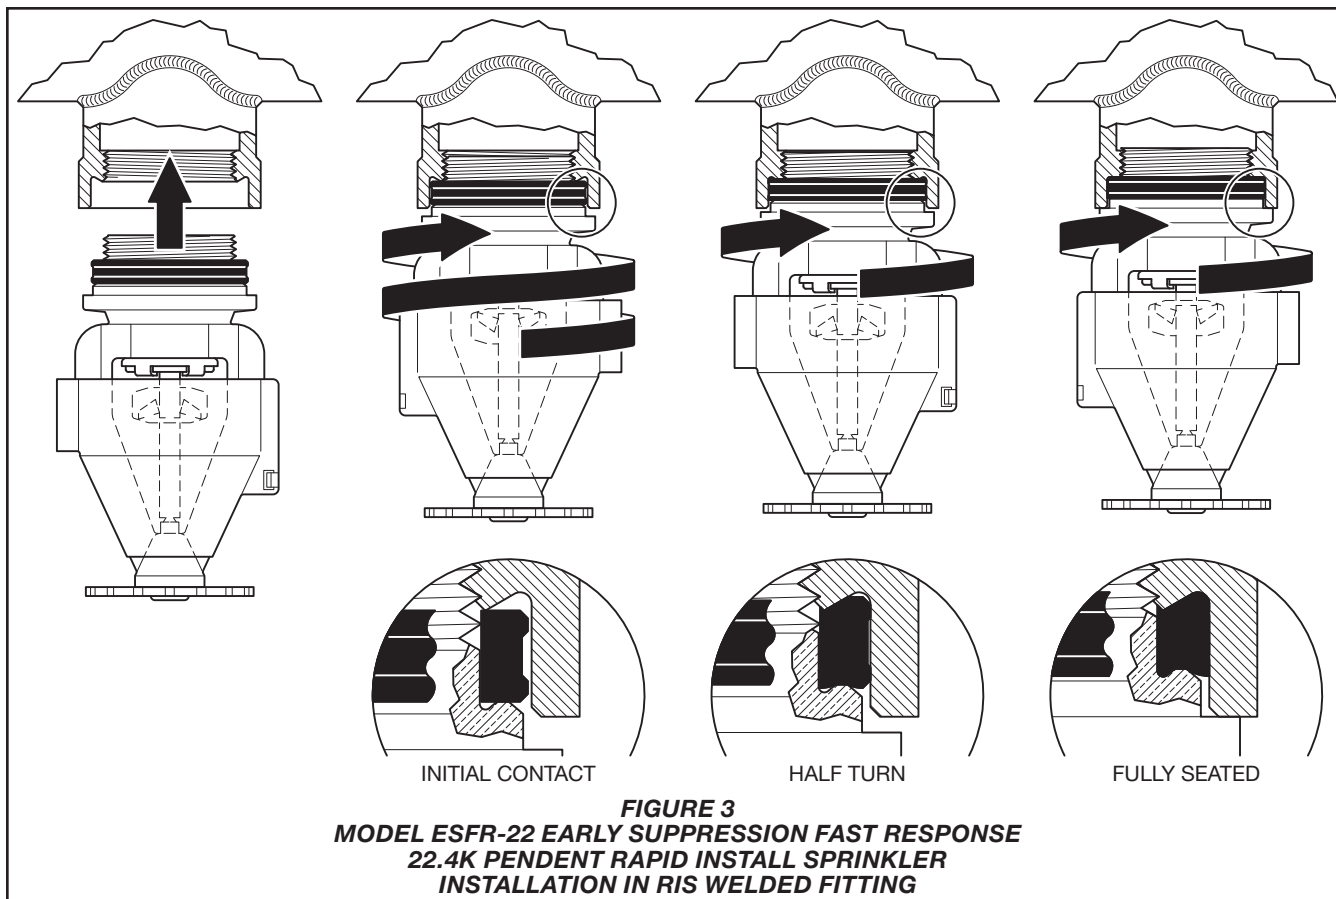

FIGURE 3
Step 1. Thread the ESFR-22 RIS by hand into the RIS welded fitting until the RIS gasket makes initial contact as shown in Figure 3.
Step 2. Continue to rotate the ESFR-22 RIS by hand a minimum of a 1/2 turn, through fully seating the sprinkler to produce a water-tight seal as shown in Figure 3. Adjust the sprinkler within this range to align the frame arms to the branch line.